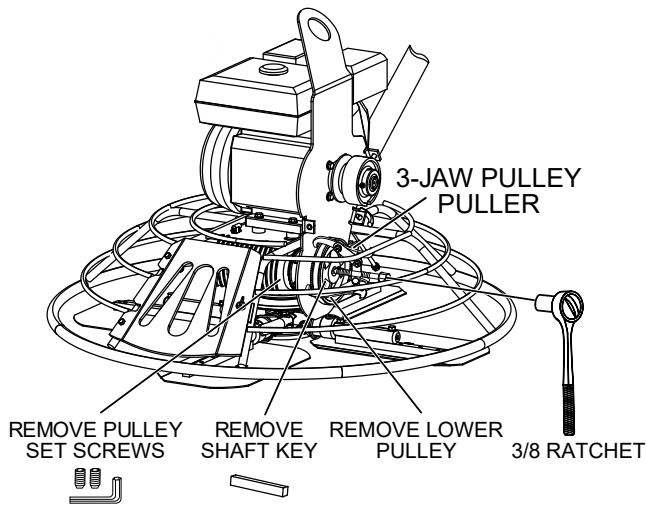

Figure 4. Remove Lower Pulley
- Remove the set screws (Figure 4) securing the lower pulley to the gearbox shaft. Set the set screws aside for later.
- Remove the lower pulley (Figure 4) from the engine shaft. A 3-jaw puller may be required. Store the pulley in a clean, dry location where it will not be damaged.